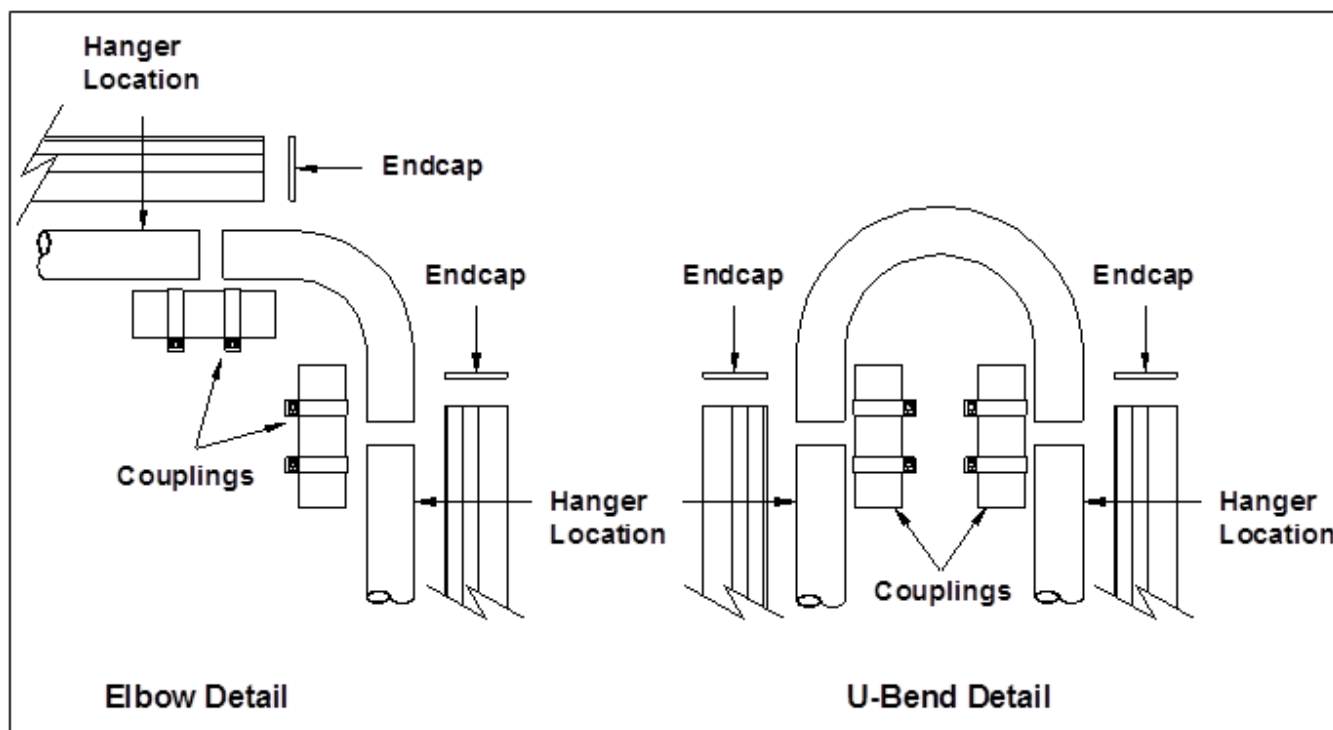

Figure 17: 90° Elbow and U-Tube Assembly Detail
- If required by the heater layout, install 90° elbows or U-tube where indicated. Refer to Figure 17 for details.